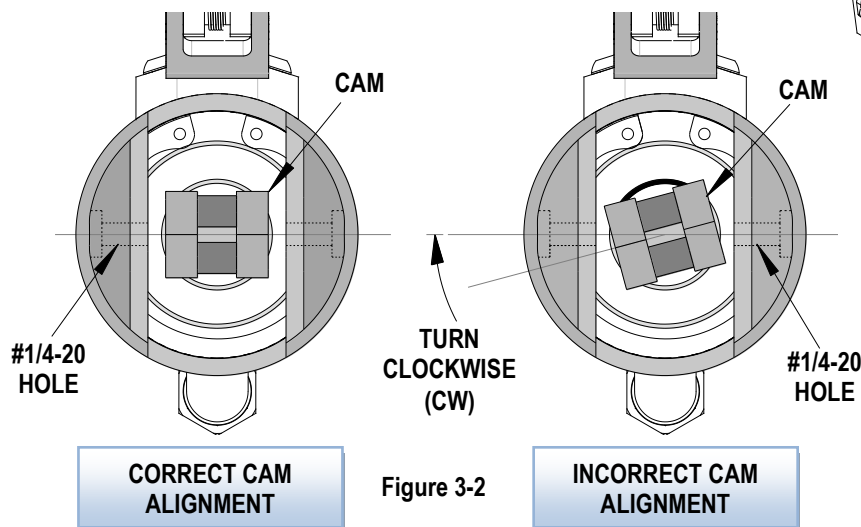

Figure 3-2
3. Before attempting to replace the dies, make sure the wedge points of the cam line up with the (2) #1/4-20 holes in the front of power unit. See Figure 3-2.
- b) Grasp the center section of the cam with a long nose plier and rotate the cam clockwise (CW) until the center line of the wedge line up with (2) #1/4-20 holes in power unit. See Figure 3-2 for the correct alignment.